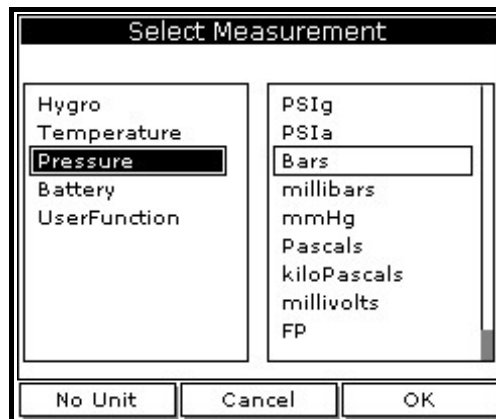

Figure 44: Select Measurement Window
- Use the [▼] key to step to a box and press [ENTER]. A screen similar to Figure 44 appears.